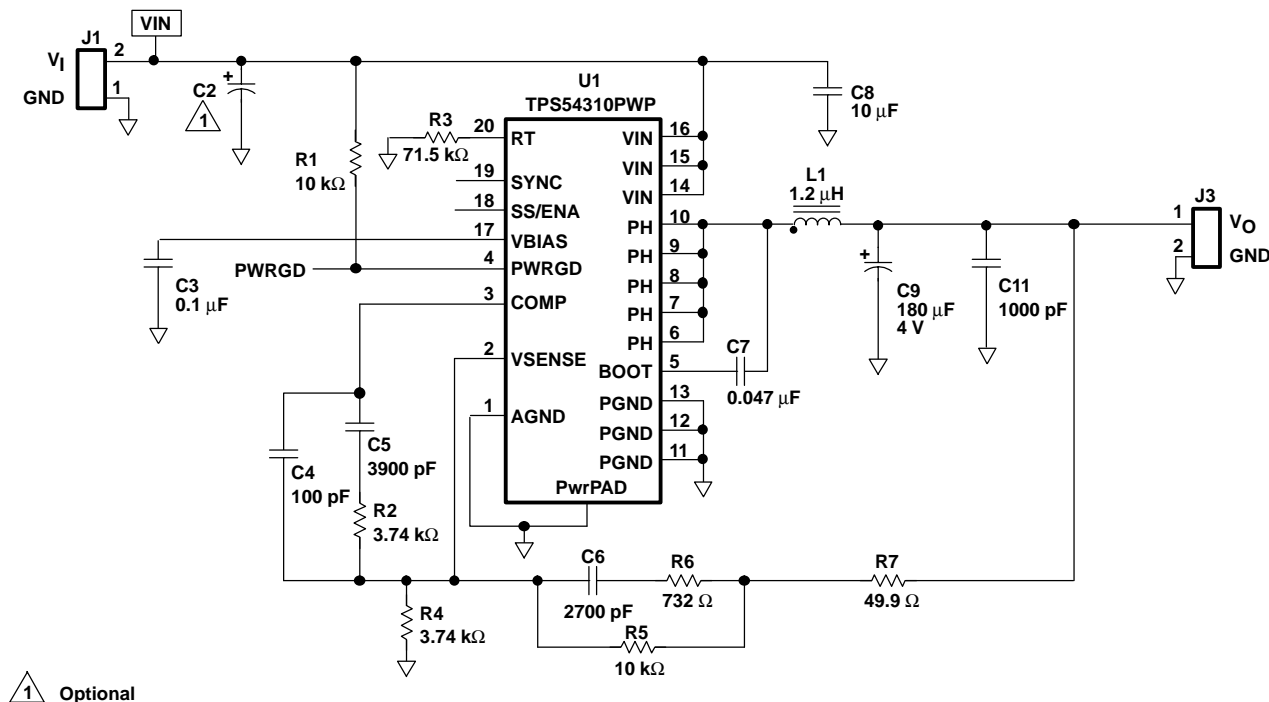

Figure 10. TPS54310 Schematic
(1) Specified by design
(2) Static resistive loads only
(3) Specified by the circuit used in Figure 10.
Figure 10 shows the schematic diagram for a typical TPS54310 application. The TPS54310 (U1) can provide up to 3 A of output current at a nominal output voltage of